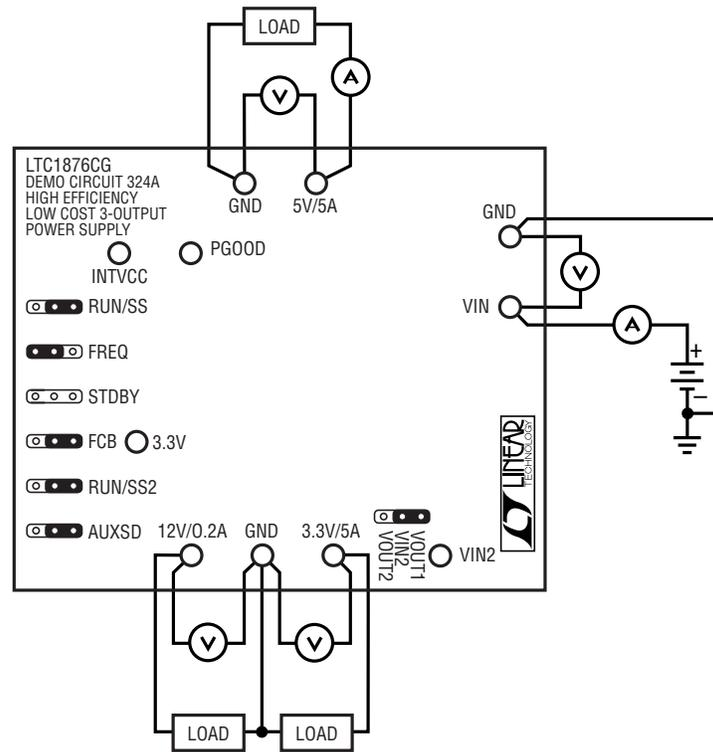

Figure 2. DC324A Test and Measurement Setup
The circuit shown in Figure 1 provides three fixed voltages: 5V, 3.3V and 12V, at currents of up to 5A, 5A and 200mA, respectively. Figure 2 illustrates the correct measurement setup to be used to verify the typical numbers found in the Performance Summary table. Small spring clip leads are very convenient for small-signal bench testing but should not be used at the current and impedance levels associated with this switching regulator. Soldered wire connections are required to properly ascertain the performance of this demonstration board. Do not tie the grounds together off the test board.
1. Refer to Figure 2 for board orientation and proper measurement equipment setup.